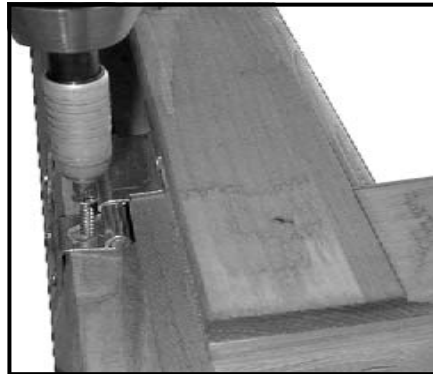

Fig A15
24. Open the window fully in order to fit a further 2x 25mm screws per hinge (Fig.A15).